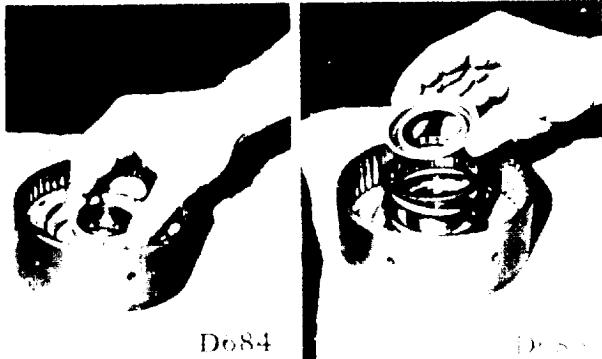

FIGURE 7-27. FIGURE 7-28.
c. Lower the piston into the clutch cylinder to the bottom of its travel, using an arbor press if necessary (see figure 7-27).